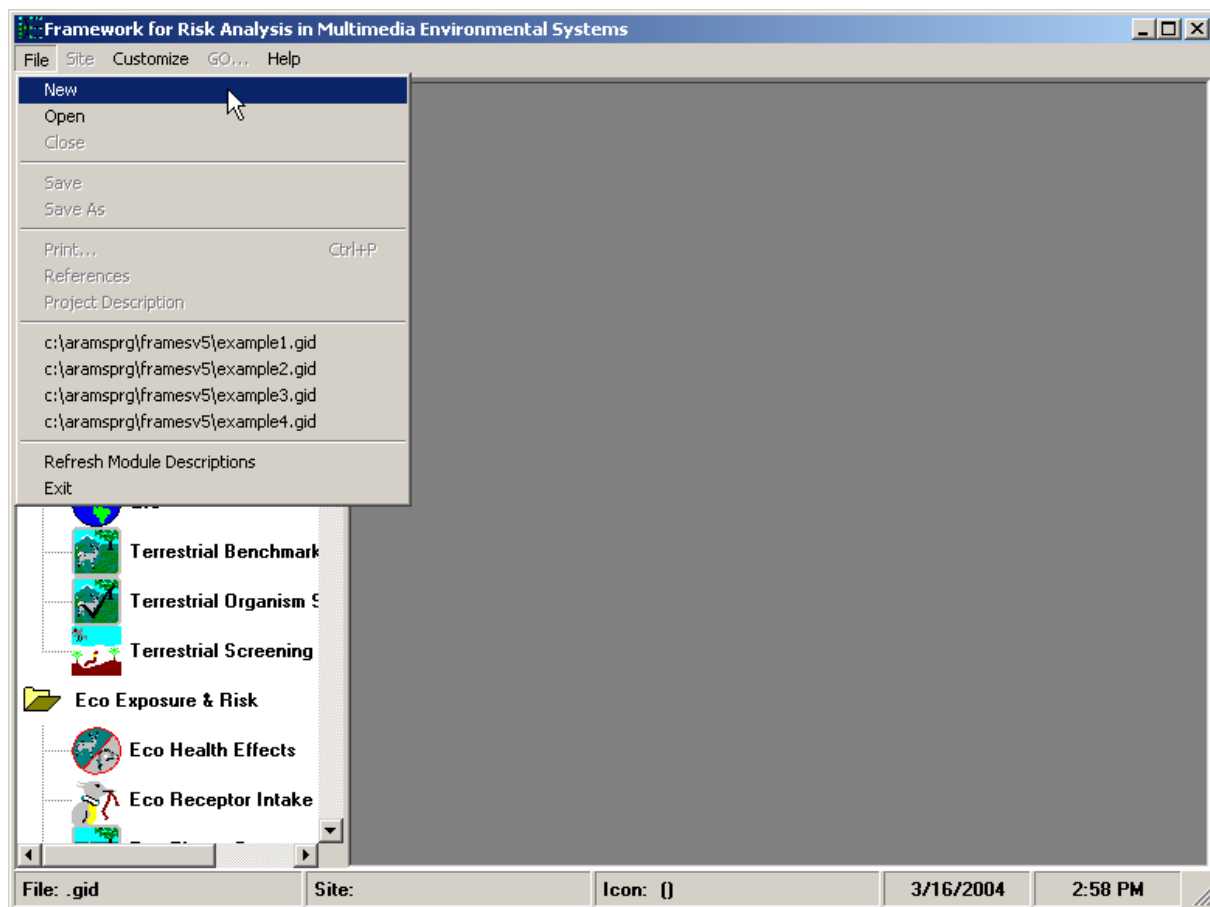
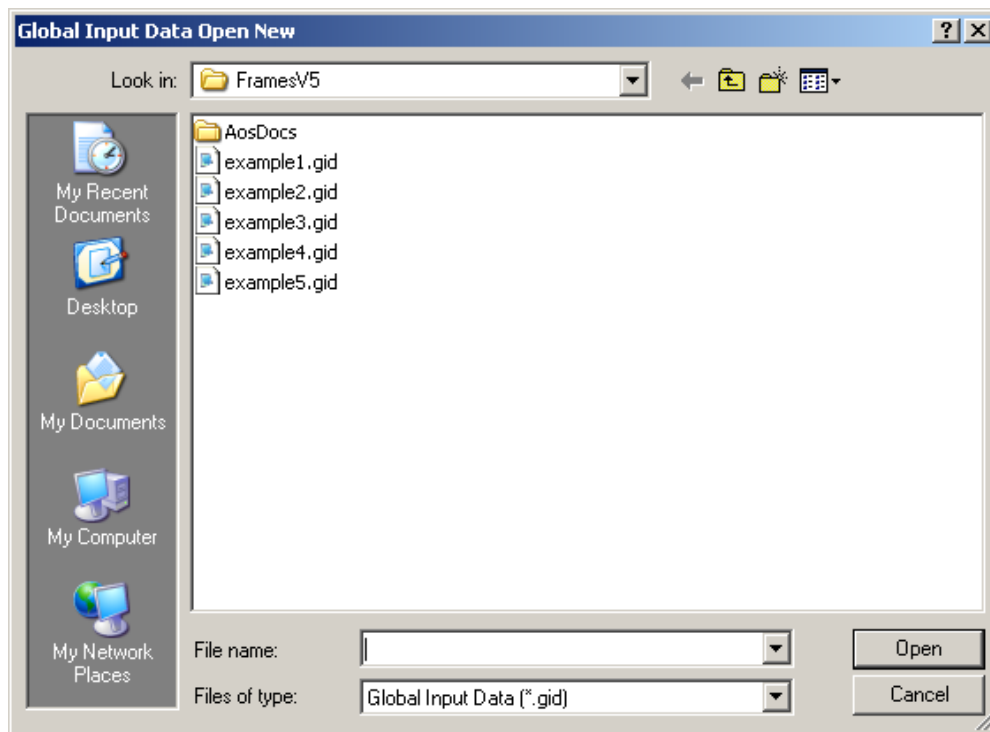
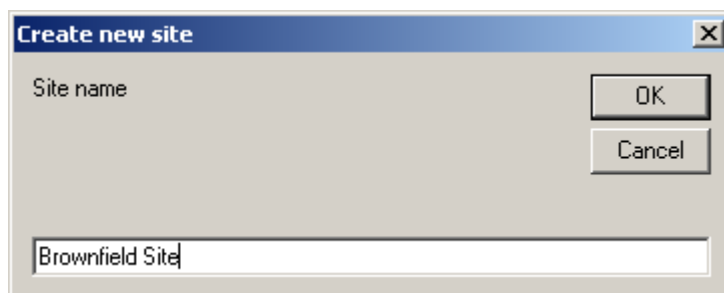

Figure 2. Opening a new file
Figure 3. Global Input Data Open New screen (new file window)
Figure 4. Create New Site screen (input "Site name" box)
- While ARAMS/FRAMES is running, click “File” and choose “New” and a window titled “Global Input Data Open New” will appear (see Figure 2). In the “File Name” box, type the project name (type: “Sample5,” maximum of eight characters) and click “Open” (see Figure 3). **Do not name the new file “Example5” because it will write over the existing “Example5” file that was distributed with the tutorial.** A window titled “Create New Site” will appear. Type the project site name (type: Brownfield Site) and click “OK” (see Figure 4).